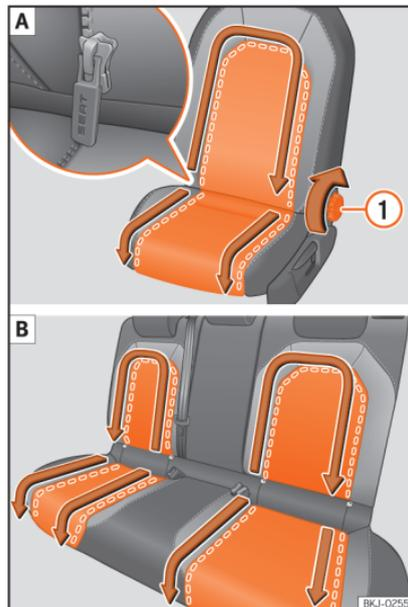

Fig. 124 Remove the covers. **A** Left front seat; **B** Rear seats
- Move the seat backwards until the handle of the zip is completely accessible »» Fig. 124 ①¹⁾.
- Move the handle of the zip in the direction indicated by the arrow »» Fig. 124. The removable cover is released.
- Move the handle of the zip against the direction indicated by the arrow »» Fig. 124.